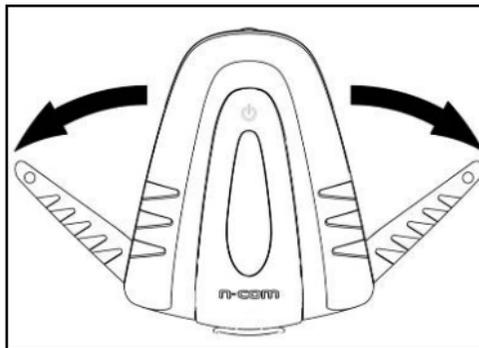

Fig. 1
- Open the side LED lights of the system, as indicated in Fig. 1;